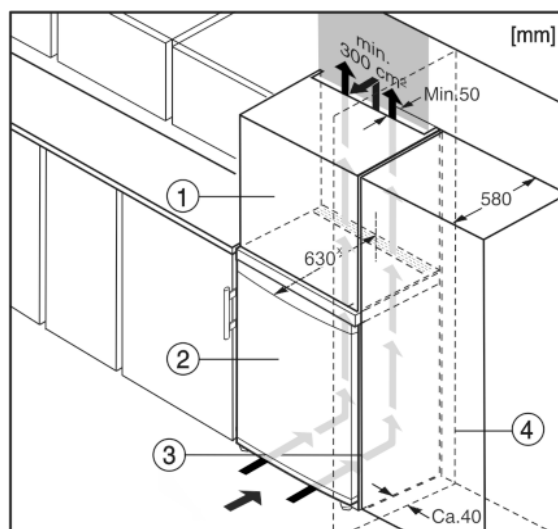

Fig. 10
- (1) Stack cabinet*
- (2) Appliance*
- (3) Kitchen cabinet*
- (4) Wall*
The appliance can be built into kitchen units. A top cupboard Fig. 10 (2) can be added above the appliance in order to bring the appliance Fig. 10 (1) up to the height of the fitted kitchen units.
When installing with kitchen units (max. depth 580 mm), the appliance can be positioned directly next to the kitchen cabinet Fig. 10 (3). The appliance will project by 34 mm * at the sides and 50 mm * in the centre of the appliance in relation to the kitchen cabinet front.*
If the appliance is installed with the hinges next to a wall Fig. 10 (4), the distance between appliance and wall has to be at least 40 mm. This corresponds to the projection of the handle when the door is open.*